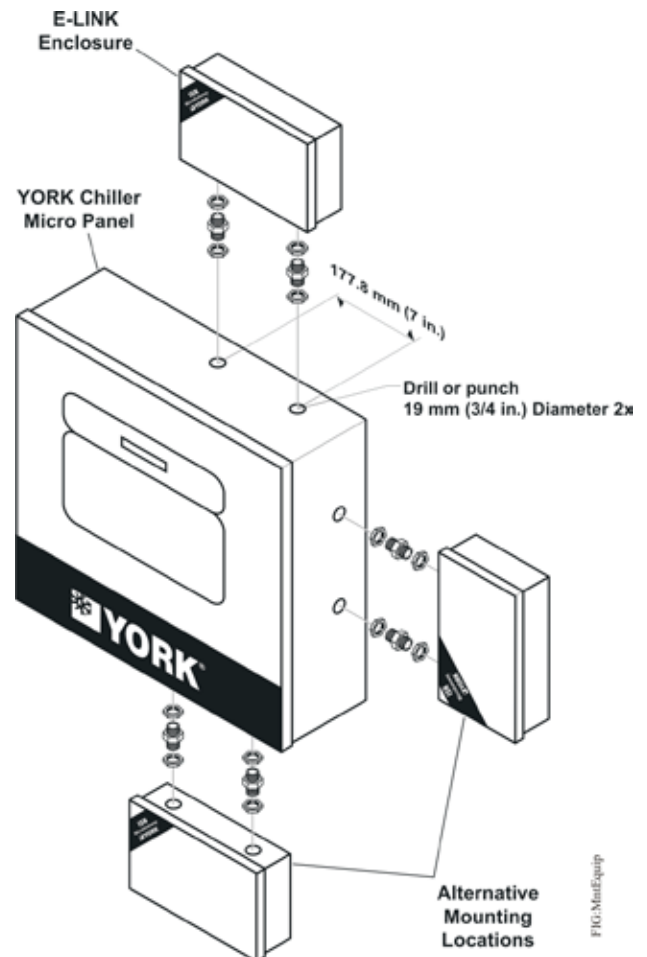

FIGURE 4 - MOUNTING ON THE EQUIPMENT
2. Make sure the E-link Gateway enclosure fits properly and that no obstructions, such as internal boards, switches, or external conduit, prevent mounting or servicing of the panel. See Figure 4 for examples of good mounting locations.